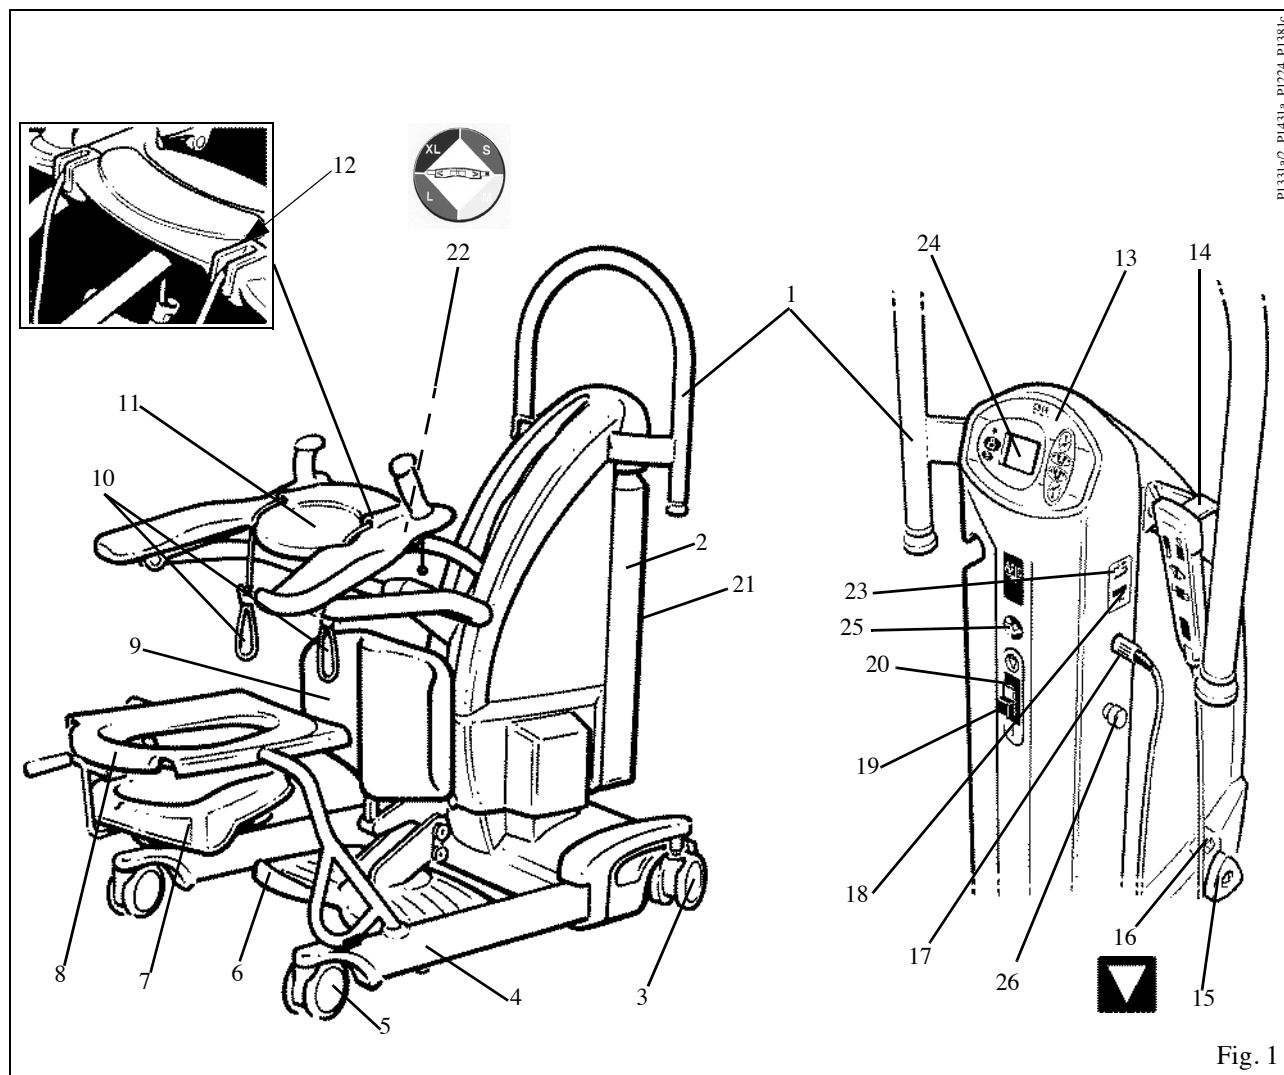

Fig. 1
The touch panel label on the dual control panel displays several instruction symbols. The letter (i) shown on the open book icon indicates 'information', and is an instruction to always read the operating instructions before use. (See Fig 1).
References to left and right of the lifter in these instructions are as viewed from the rear of the *Sara Plus*, i.e. viewed from the dual control panel (see Fig. 1)
Ensure that the green reset button situated on the back of the lifter cover is pressed in. (see inset to Fig. 1).
Check that the system failure lower override knob is turned fully clockwise and finger tight, (see Fig. 1).
A circular label is fitted to the central lifting tube for quick colour to size reference. (see fig 1)
**Emergency stop button (red):-** (see Fig. 1) If, in an emergency, you have to immediately stop any powered movement, (other than by releasing pressure on the button either on the handset or dual control panel), press the emergency stop button situated on the side of the cover. (See Fig. 1).
**Power on/Reset button (green):-** (see Fig. 1) On the rear of the case below the dual control panel. Press this button to turn on power to the lifter. Also used to reset if the automatic overload fuse has operated (indicated by the button projecting outwards slightly). If the fuse has operated and once reset, operates again, withdraw the lifter from use and contact ArjoHuntleigh Service department or their appointed distributor.
**Power off button (red):-** (see Fig. 1) On the rear of the case below the dual control panel. Press this button to turn off power to the lifter.
**System failure lower override:-** This can be used in the event of main control failure. In the unlikely event that the control handset or dual control panel fails to operate the lifter, with a patient still supported by the sling, provision for lowering has been made, using the "lower override knob", situated on the right hand side of the main cover (see Fig. 4). A label situated above the switch is for quick and easy recognition (see Fig. 1) To operate the lower override, turn the knob anti clockwise half a turn, to cease lowering turn the knob clockwise until finger tight only (do not over tighten), only use this knob in the event of normal control failure do not use it for normal function lowering.
**Battery Discharge Indicator:-** is a small LED display which shows the charge condition of the lifter battery. (See Fig. 1 and also 'Battery Charging Section' for complete description).
**Hour Meter:-** Is a small LCD display (See Fig. 1) which shows the total duration of powered operation (in hours). This is primarily intended as an aid to service engineers and to help the attendant calculate servicing intervals.
**Arc-Rest (with handgrips):-** Integral Part of the Lifting mechanism of the lifter, the intuitive and supportive armrests allow patient participation and comfort during the lifting procedure. (See Fig. 1)
**Proactive Pad™:-** This is a reactive lower leg support (Fig. 1 and 7), which enables the patient to be lifted comfortably and effortlessly. It can be adjusted vertically for differing lower leg lengths and is sprung to stay in contact, when the patient's legs move radially during the lifting procedure. To adjust, hold the Proactive Pad™ with one hand (see Fig. 7) and slacken the clamping screw knob with